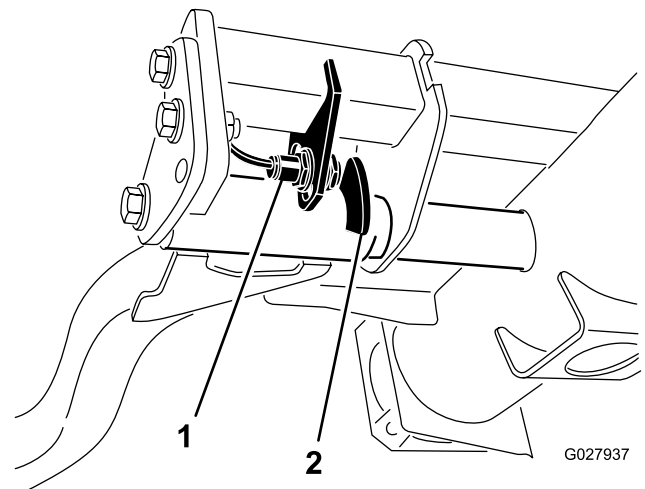

Figure 30
2. The lift-arm switch is located underneath the hydraulic tank behind the front, right lift arm (Figure 30).
3. Loosen the switch-mounting screws (Figure 30) and move the switch down to increase the lift-arm turnaround height or move the switch up to decrease the lift-arm turnaround height.